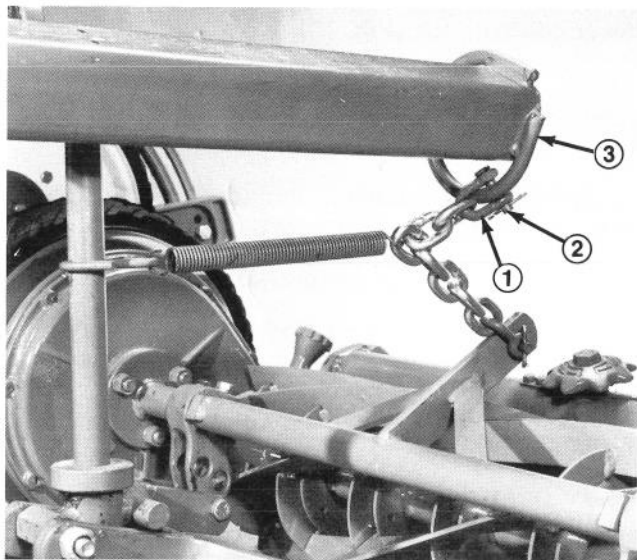

Figure 13
1. Connect (2) outer lift chains to pulley support with short shackles, clevis pins and cotter pins (Fig. 13).
3. Secure short lift chains to No. 4 and No. 5 lift arms (rear) with short shackles, clevis pins and cotter pins (Fig. 13). Secure to welded ring.